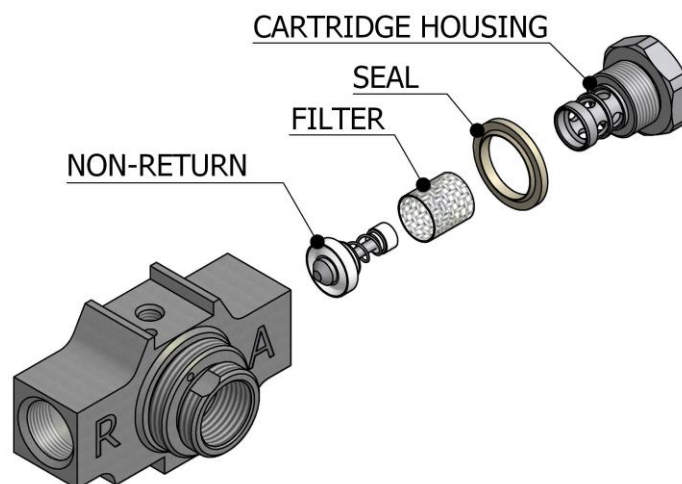

Figure. 19
6. Remove the non-return unit and filter from the Polyol side on the mixing block. Clean the unit with gun-cleaning solvent and also the block housing (see **Figure. 19**, page 20).
7. Remove the non-return unit and filter from the Isocyanate side on the mixing block. Clean the unit with gun-cleaning solvent and also the block housing (see **Figure. 19**, page 20).
6. Unscrew the Isocyanate side cartridge by turning it anti-clockwise, remove it from its housing (see **Figure. 19**). Clean the housing with gun cleaning solvent and make sure no loose particles remain inside.
12. Remove the non-return and filter units of both products (see **Figure. 19** page 20). Clean the non-return units and the corresponding housings with gun-cleaning solvent. Fit the non-return units, the filters, the seals and the cartridge housing in separate vessels with gun cleaning solvent.